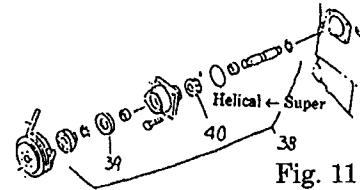

Fig. 11
(7) Change of alternator driver gear (Fig. 11)